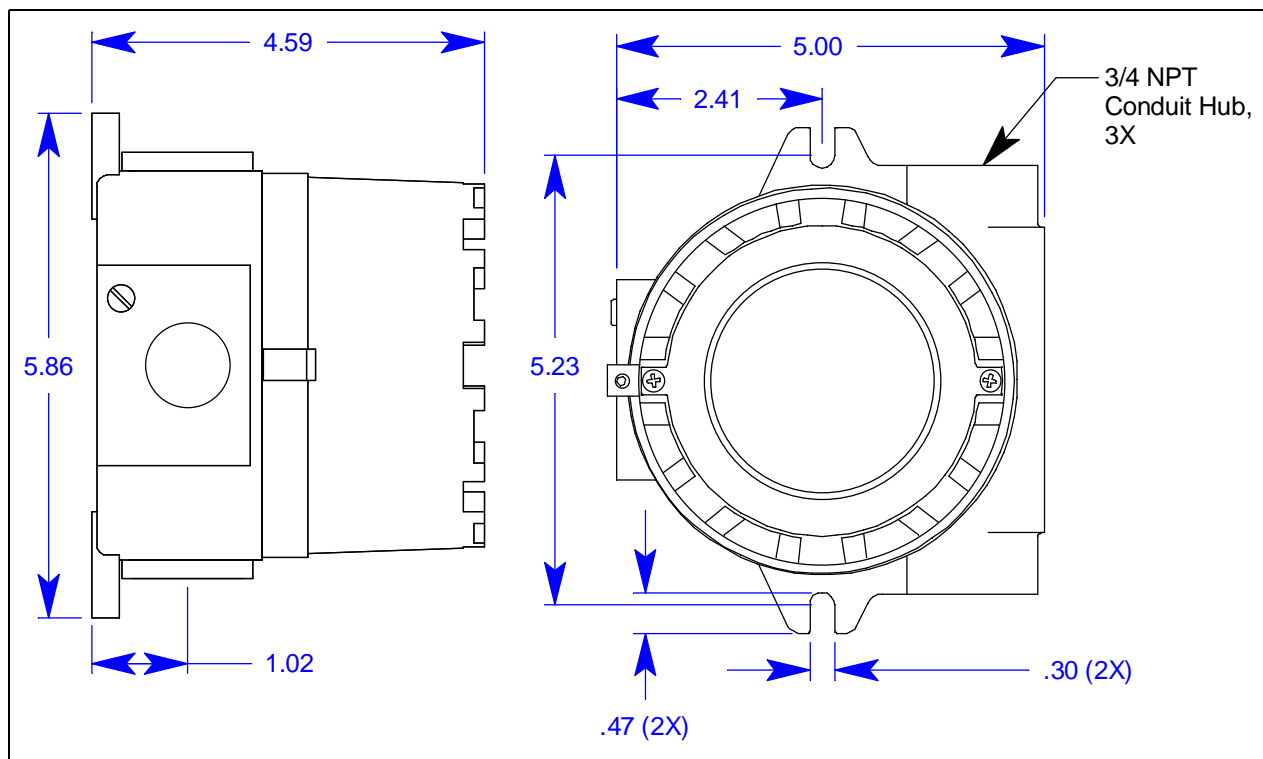
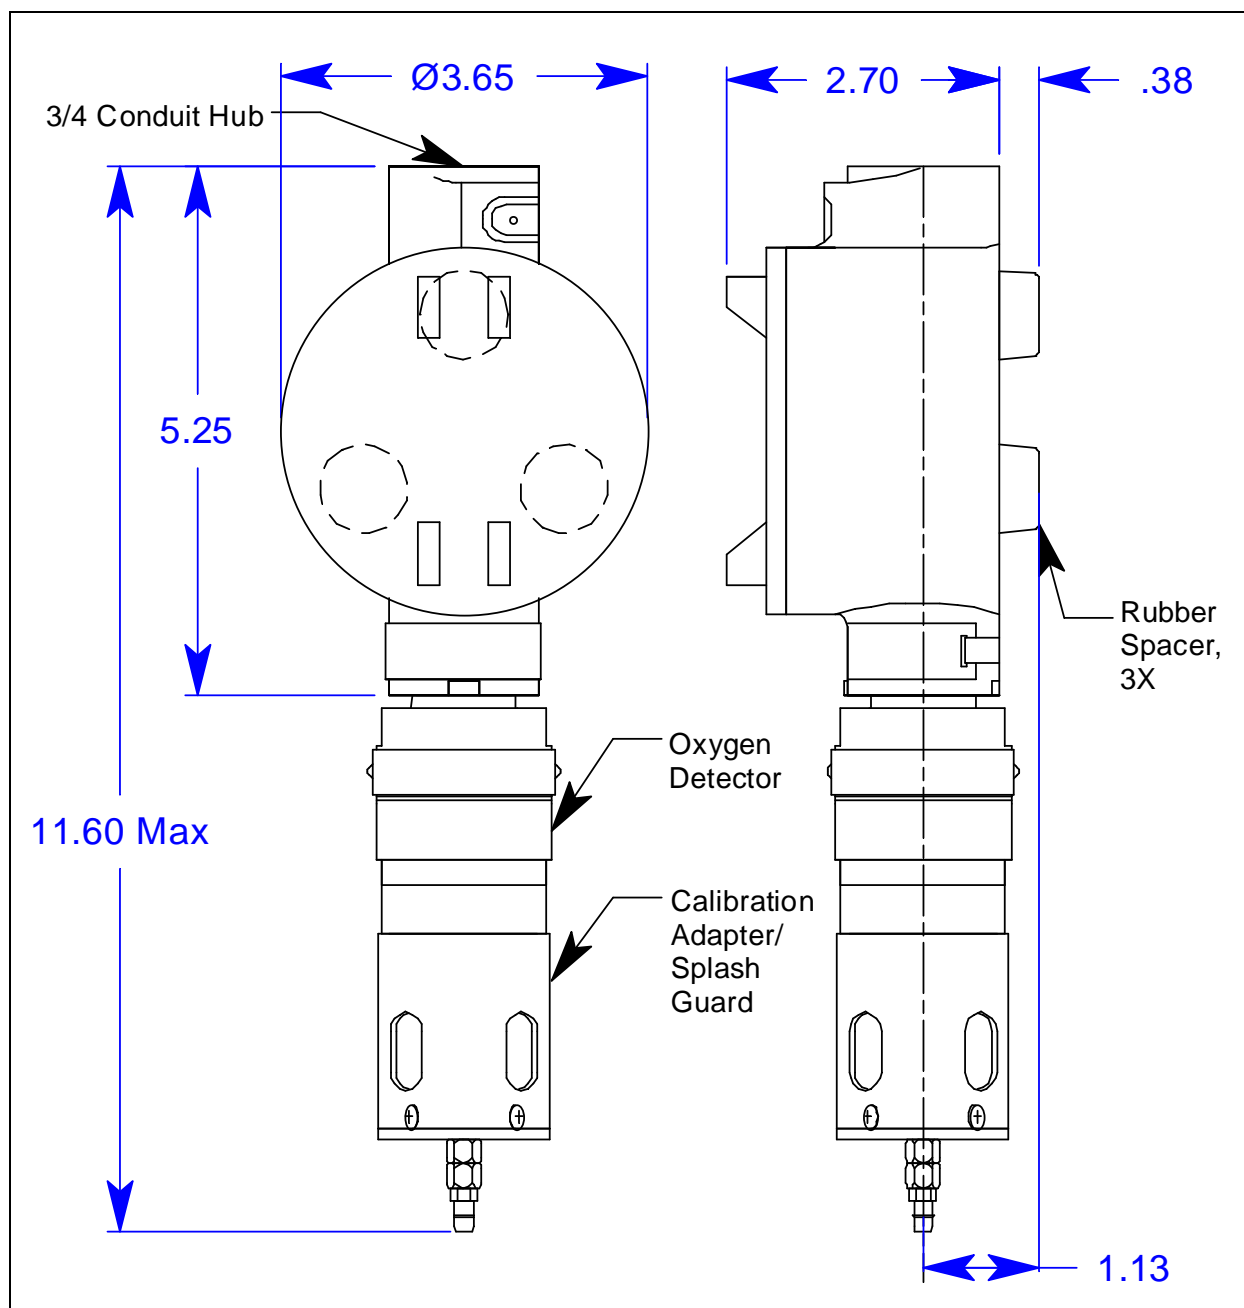

Figure 6: Outline & Mounting Dimensions, M2A Junction Box
Figure 7: Outline & Mounting Dimensions, Detector Junction Box
2. Use #10 screws through the M2A junction box's two mounting slots to secure the junction box to a vertical surface. Figure 6 shows the outline and mounting dimensions for the M2A junction box. Figure 7 shows the outline and mounting dimensions for the detector junction box. Mount the detector junction box with the detector facing down as shown in Figure 7.